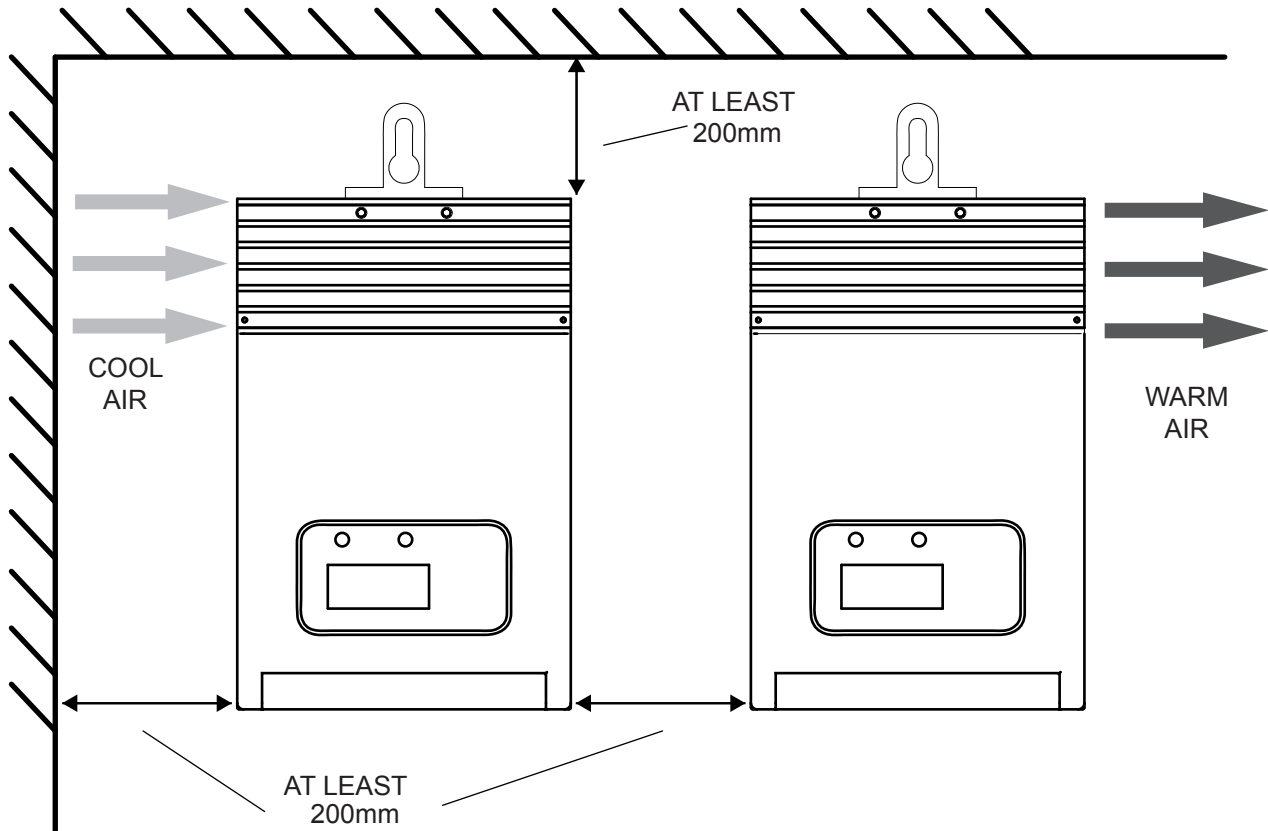

Figure 3-2. Required mounting clearance for air flow.
2. Place the Masspower MPPT on a vertical surface protected from direct sunlight, high temperatures, and water. The Masspower MPPT requires at least 150 mm of clearance right and left. flow as shown in figure 3-2 below.